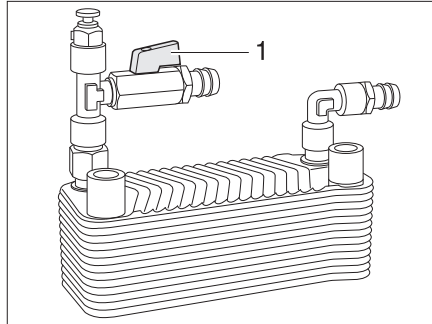

Fig. 300 Alde heat exchanger
- Turning on:* ■ Set stopcock handle (Fig. 300,1) parallel to the pipe.
- Shutting off:* ■ Set drain cock handle (Fig. 300,1) at a right angle to the pipe.